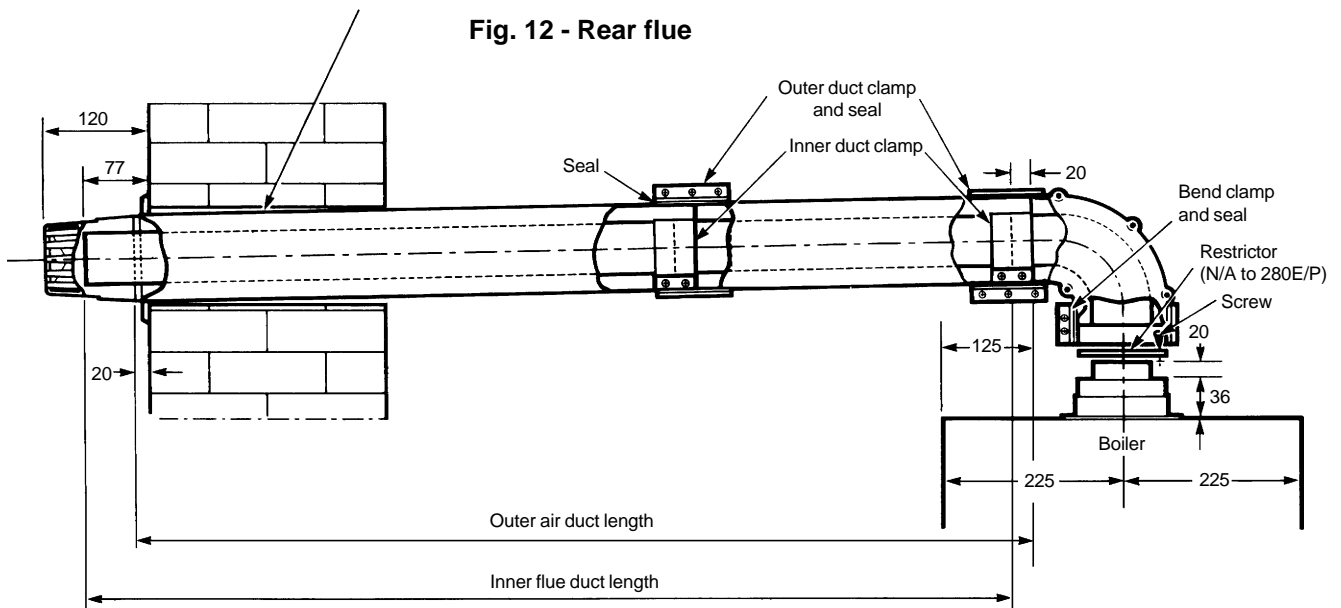

Fig. 13 - Side flue
2. If the flue is more than 1 m, the restrictor must be removed from the flue adaptor (see Fig. 13), by removing the screw and lifting out the restrictor. **The Alpha 280E and 280P are not fitted with a restrictor.**